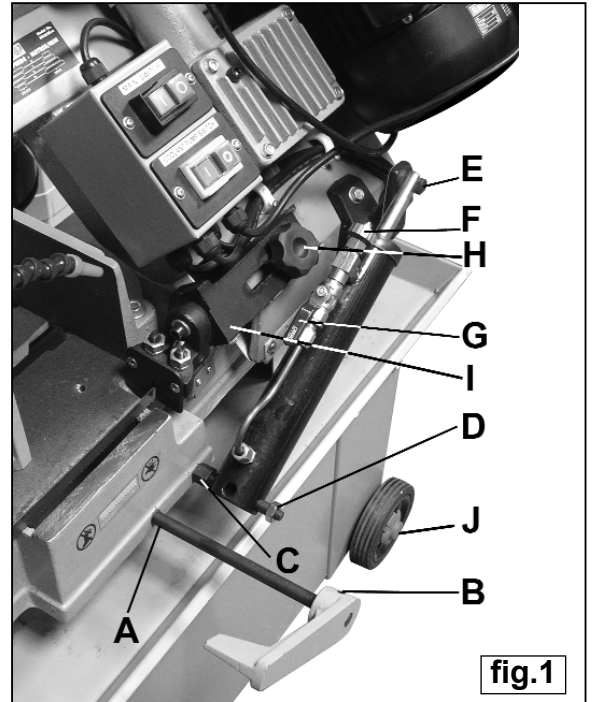

fig.1
- 3.3.1 **Attaching the damper cylinder.** Screw the threaded end of the cylinder support rod into the tapped hole in the machine bed (see fig.1C) and tighten it using a 17mm spanner applied to the hex section. Slide the damper cylinder assembly onto the rod in the correct orientation as shown in fig.1 (with valve controls upwards) and screw the 14mm retaining nut into position on the end of the rod. (fig.1D). Insert the stepped hinge pin (fig.1E) through the hole in the end of the piston and swing the cylinder upwards towards the cylinder bracket attached to the main arm. In order to screw the hinge pin into the bracket it may be necessary to depress the piston. Alternatively get a second person to raise and support the arm until the hinge pin is aligned with the hole in the bracket. Tighten the hinge pin with a 14mm spanner.
4.3.1 The rate of descent of the main cutting arm is controlled by the damping cylinder seen in fig.1. By turning the knob 'F' in fig.1 clockwise the rate of descent is slowed down. By turning the knob anticlockwise the rate of descent is increased. The arm can be locked in any position by turning the hydraulic flow off using tap 'G' in fig.1. When the tap is at 90° to the cylinder the flow is off and the arm will stop moving.
4.6.4 The right hand blade guide can be seen in fig.1 item 'I'. To adjust it, loosen knob H and slide the guide near to the workpiece. Tighten knob H.